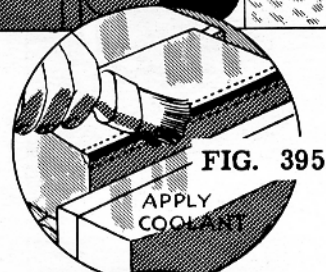

FIG. 395
5. Apply a little cutting lubricant to the surface with a brush. This will help preserve the cutting edge of the tool and will produce a smooth surface (Fig. 395). Cast iron is machined dry.